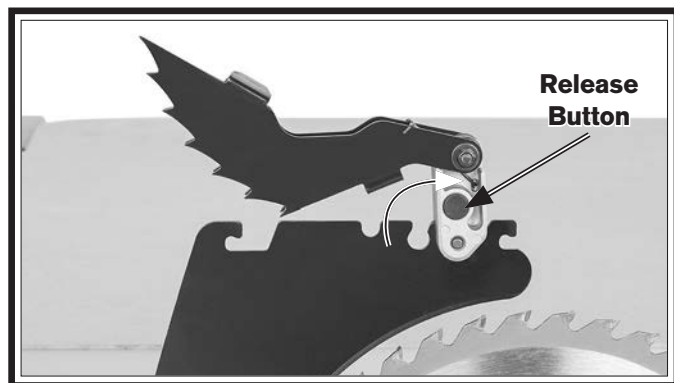

Figure 58. Pawl release button.
3. Press and hold release button on pawl assembly (see **Figure 58**).
4. Pivot pawl assembly up from the back and lift away from spreader (see **Figure 58**).